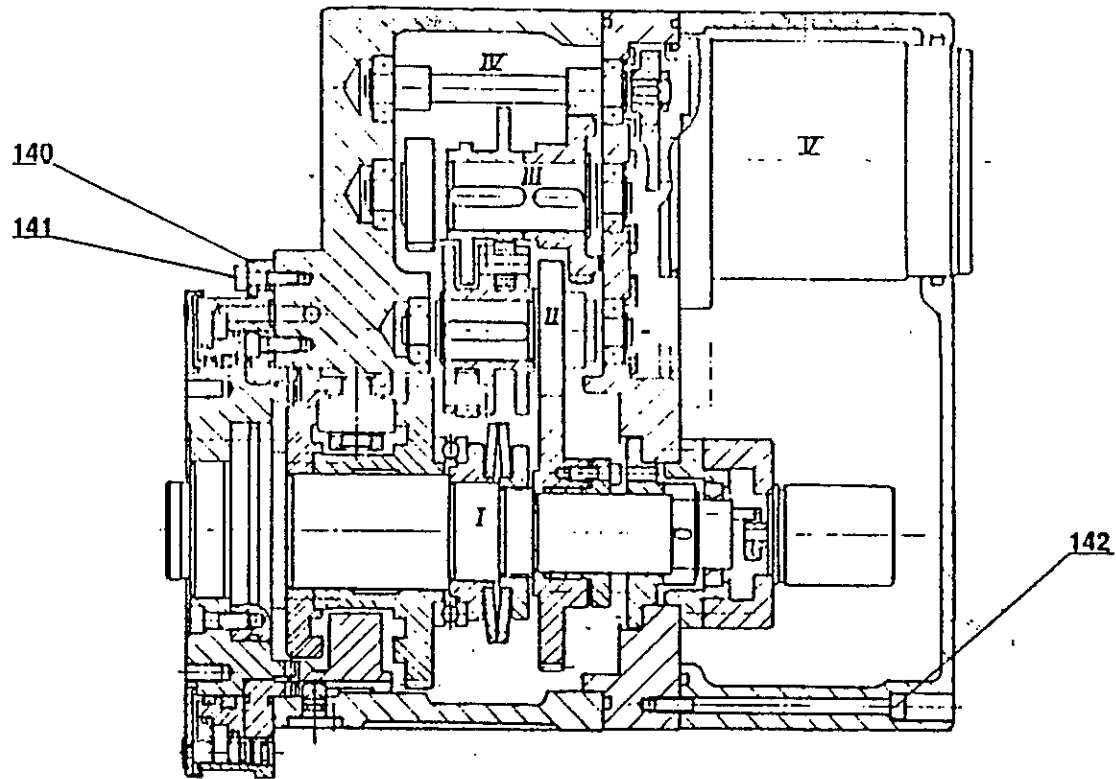

FIG 15.1 OVERALL ASSEMBLY
16.1 Instructions for dismantling (fig 15.1,15.2,15.3,):
- Remove coolant flange (26) and coolant ring (24,1).
- Remove rear cover (60).
- Remove encoder (61) and mounting flange (19).
- Remove gear (95).
- Remove proximity switch (152), along with its clamp.
- Remove circlip (55)
- Remove screws (150). Use extraction screws and pull out the end plate (49).